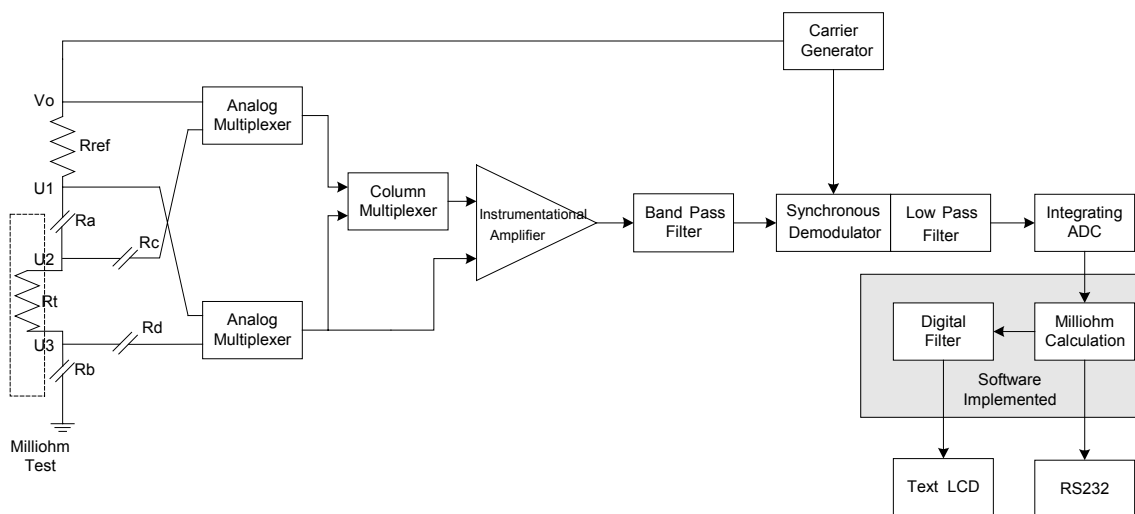

Figure 1. Milliohmeter Flowchart
To cancel this error, a 4-wire connection is used. In the system shown in Figure 1, the drop in wiring resistances Rc and Rd will be negligible due to the high input impedance of the measurement system. Equation (1) shows how the measured resistance is determined:
Figure 1 depicts the milliohmmeter flowchart. The carrier generator produces the modulation signal that is applied to a sense resistor. High impedance analog multiplexers allow measurement of the sense resistor and shorting of the inputs to measure systems error. The column multiplexer allows users to automatically short the input (in program) for CDS execution.